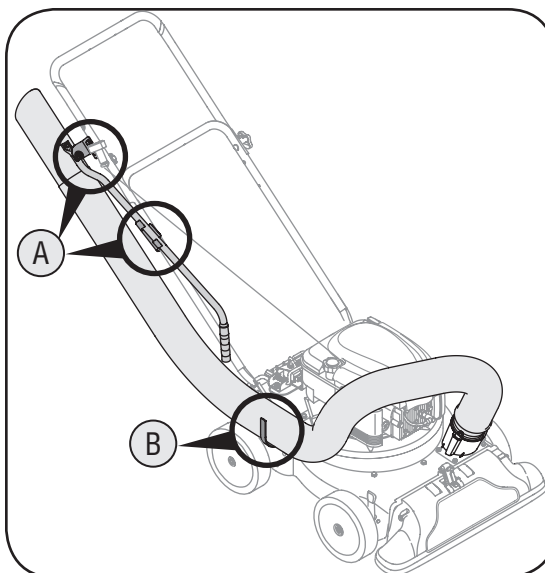

Figure 3-5
6. a. Snap the hose handle first into the upper hose handle bracket and then into the lower hose handle bracket. See Figure 3-5.
b. Lay hose tubing on hanger bracket next to chipper chute. See Figure 3-5.